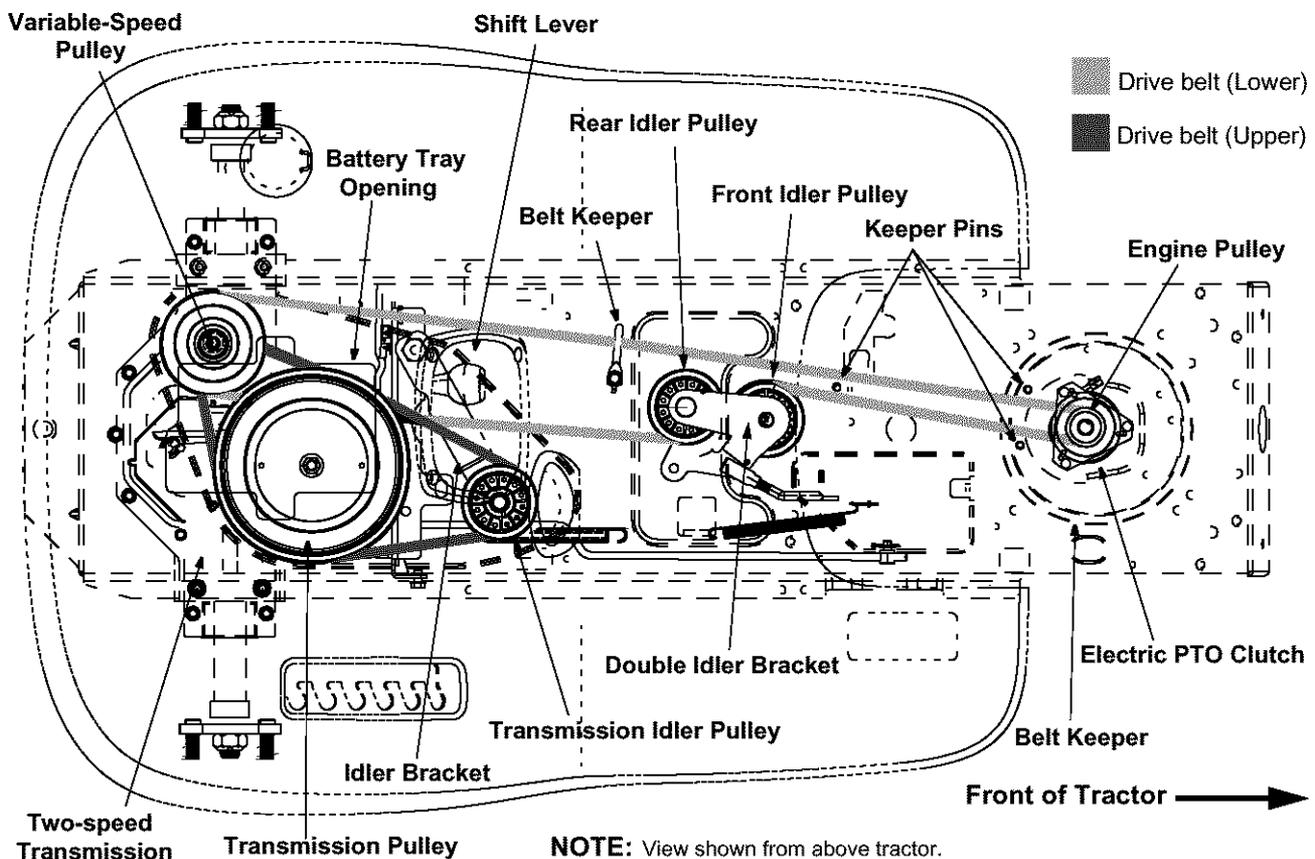

Figure 18
- Locate the transmission idler pulley on the upper drive belt by looking through the battery tray opening. See Figure 18.
- Reroute the new upper drive belt as shown in Figure 18.
- Locate the variable-speed pulley through the battery tray opening. See Figure 18.
- Remove rear idler pulley from the double-idler bracket while loosening the belt from around both the rear and the front idler pulleys. See Figure 18.
- Reroute the new belt around the pulleys, belt keepers and keeper pins exactly as the old one was routed. Refer to Figure 18.